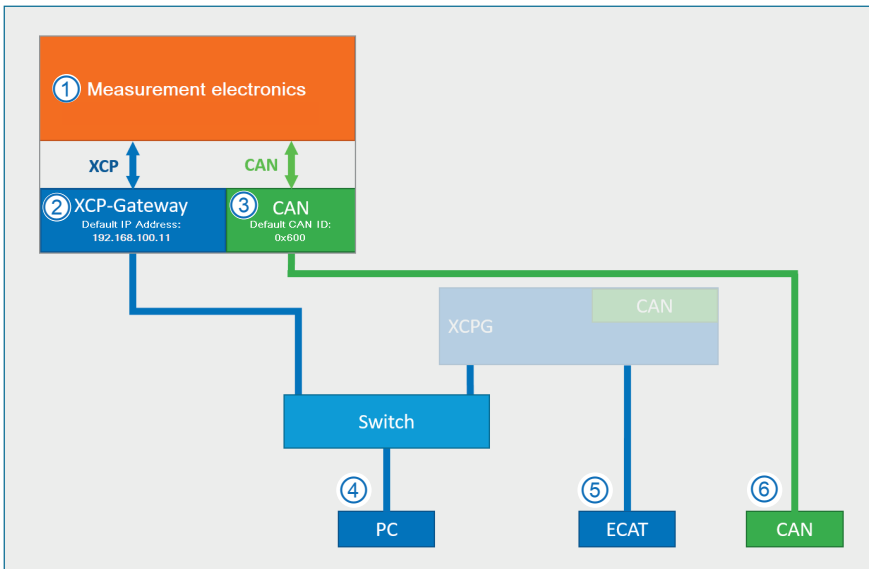

Fig. 7-1: Option "HV BM 3.1 OBC XCPG" not enabled
Fig. 7-1 shows the block diagram of an HV BM 3.1 OBC with the standard range of functions, i.e. the option "HV BM 3.1 OBC XCPG" is not enabled. When operated in XCP mode, the HV BM 3.1 OBC sends the measurement data recorded via the measurement electronics ① via XCP ② to the PC socket ④. The XCP-Gateway is displayed in CSMconfig as an interface with the designation "HV BM 3.1 OBC xx.5".